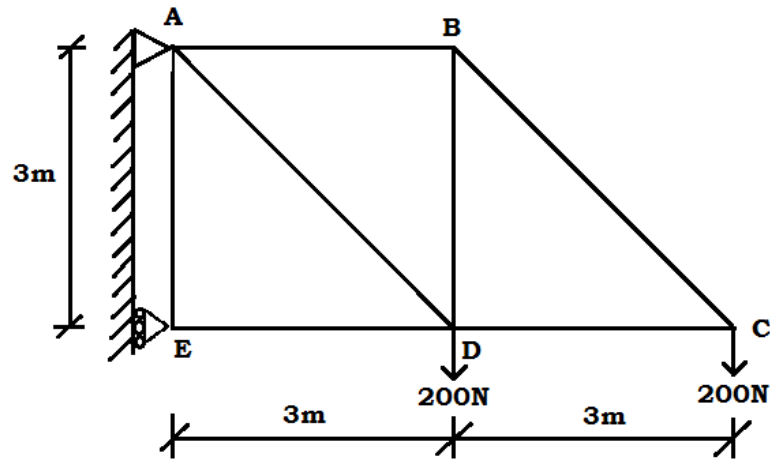

Fig.6
6. Determine the axial forces in all members of the truss shown in fig.6.